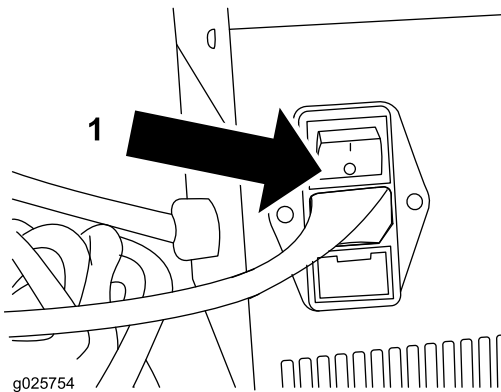

Figure 5
4. Verify the charger is turned off (Figure 5).